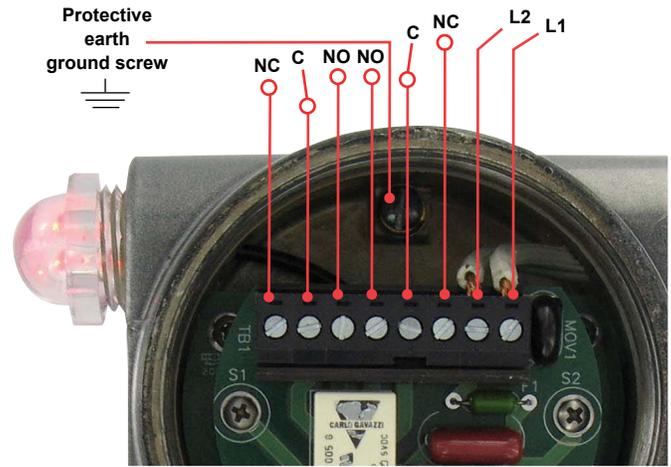

Figure 1: Terminals
**Grounding:** The case of the CLS2 must be wired to a protective earth ground. This may be done by using a metal conduit or by wiring to one of the protective earth ground screws in Figure 1 or Figure 2.
Strip 0.25" of insulation from the wires. Connect the power wires to terminals 1 and 2. If powered by DC, the polarity is not critical and either terminal may be selected for positive or negative. Connect control lines to the relay contact terminals (see Figure 1 for terminals). Torque terminals to 5 in-lb.